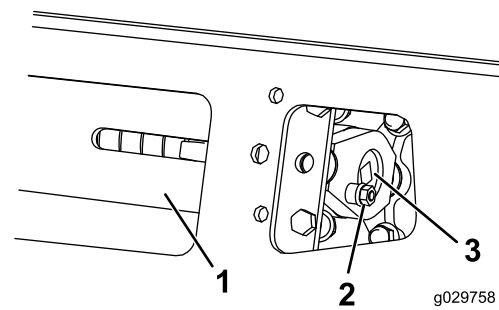
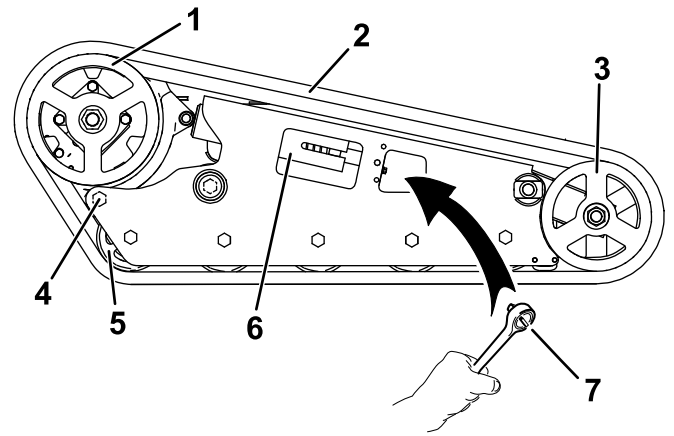

Figure 59
Figure 65
- Align the closest notch in the tension screw to the locking-bolt hole and secure the screw with the locking bolt and nut (Figure 59).
- Remove the locking bolt, spacer, and nut (Figure 59).
4. Remove the locking bolt and nut (Figure 59).
5. Using a 1/2-inch drive ratchet, release the drive tension by turning the tensioning screw clockwise (Figure 59 and Figure 65).
6. Loosen the rear bolt, near the drive wheel (Figure 65).